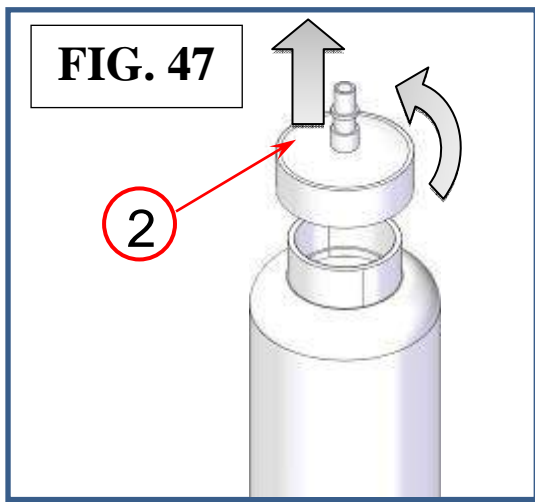
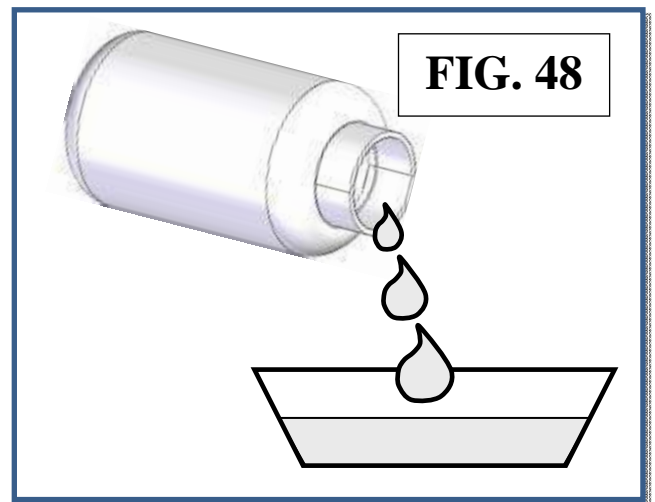

FIG. 47
FIG. 48
3. Unscrew the cap (ref 2, Fig.47) while holding the container; empty the used oil into a suitable container for used oils (Fig.48).